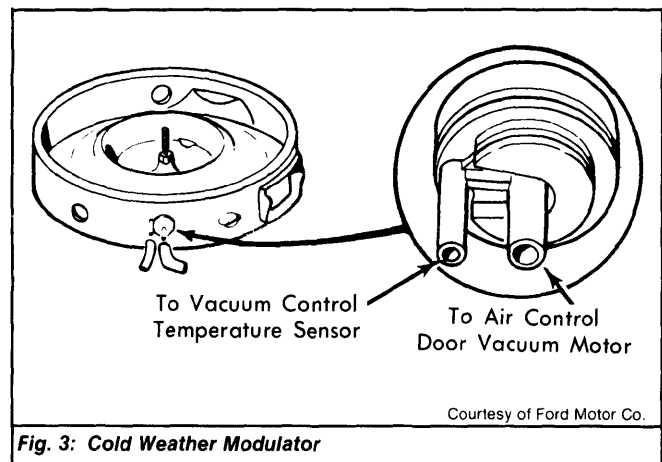

Fig. 3: Cold Weather Modulator
**Ford Motor Co.** – Some vehicles have a vacuum modulator located in the air cleaner. During engine operations in cold weather, it prevents the air cleaner duct door from opening to non-heated intake air. When available outside air is above 55°F, the cold weather modulator does not operate. See Fig. 3.